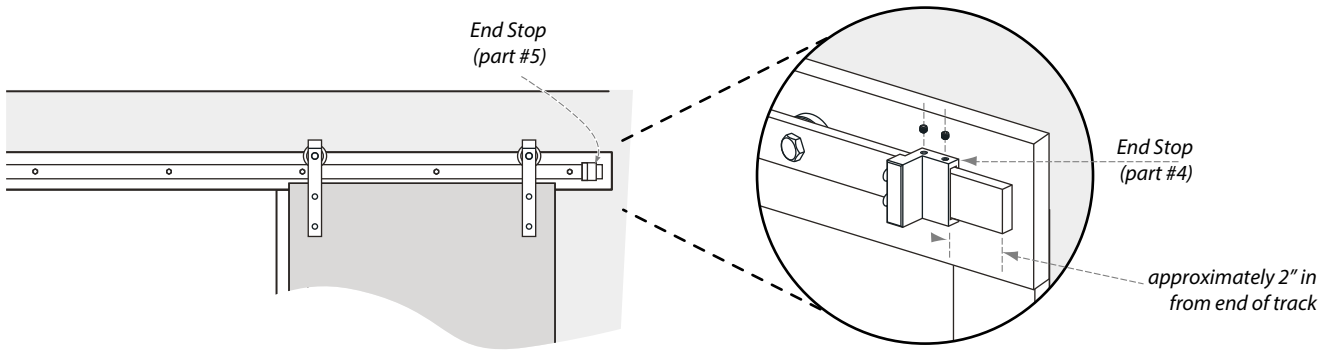

Figure 9
3. On both ends of track, install end stops (part #5) approximately 2" in from the end of the track to prevent door from rolling off (figure 9).